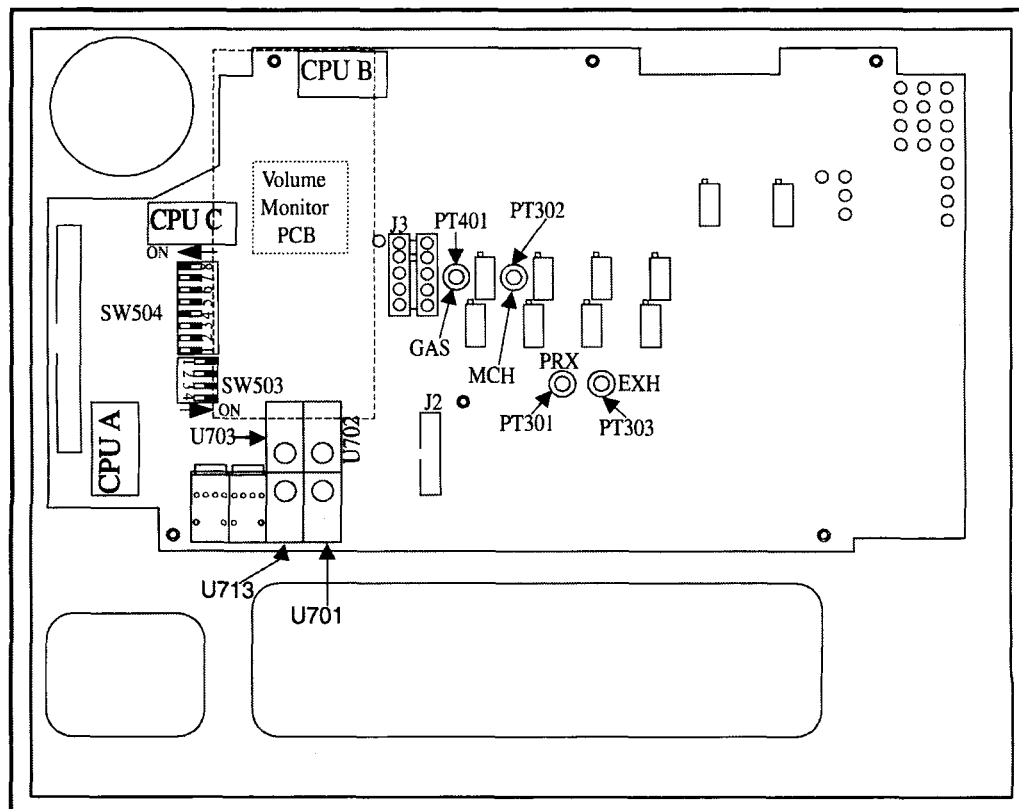

Figure 5.1
- 2.5 Before turning the unit on, locate DIP switch SW504 on the Main Board. Turn switch # 4 and #8 ON (See Figure 5.1). This will put unit into the Service Diagnostics Test (SDT). Also turn off switches #6 and #7, this will disable Auto Zero Manifold.